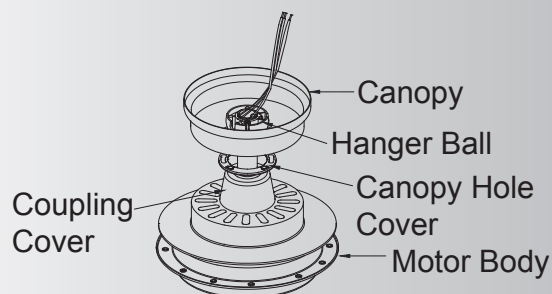

Fig. 8
**Step 4.** Slip the coupling cover, canopy hole cover and canopy onto the downrod. Carefully reinstall the hanger ball onto the downrod. Make sure the cross pin is in the correct position and the set screw is tight and the wires are not twisted. ( Fig. 8)